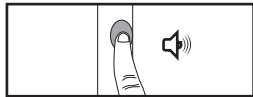

Figure 21.1; Press and Hold Programming Button
Press the PROGRAMMING BUTTON on each E-Wand you wish to pair to the remote until you hear a SINGLE BEEP (1) [Fig. 21.1], then release.